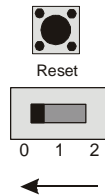

Figure 2-11
- ✓ Turn off the power by setting the 3-position switch on your Board of Education to position-0 (see Figure 2-11).